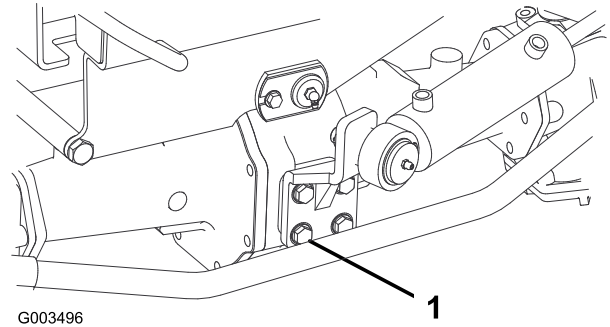

Figure 64
2. Torque the 4 bolts for the steering-cylinder mount (Figure 64) to 65 to 81 N·m (48 to 60 ft·lb).